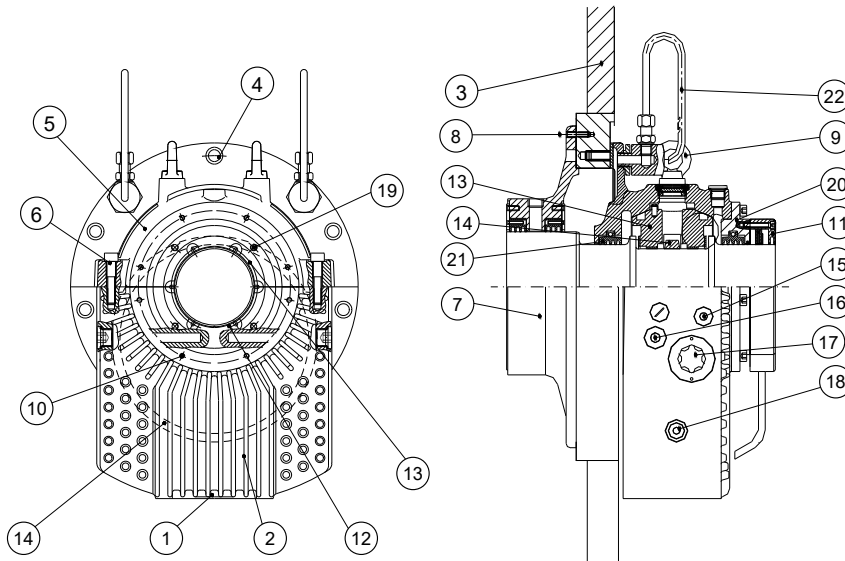

Figure 7.4: Parts of the sleeve bearing
**Figure 7.4 legend:**
Keep all parts in a safe place (Figure 7.4).